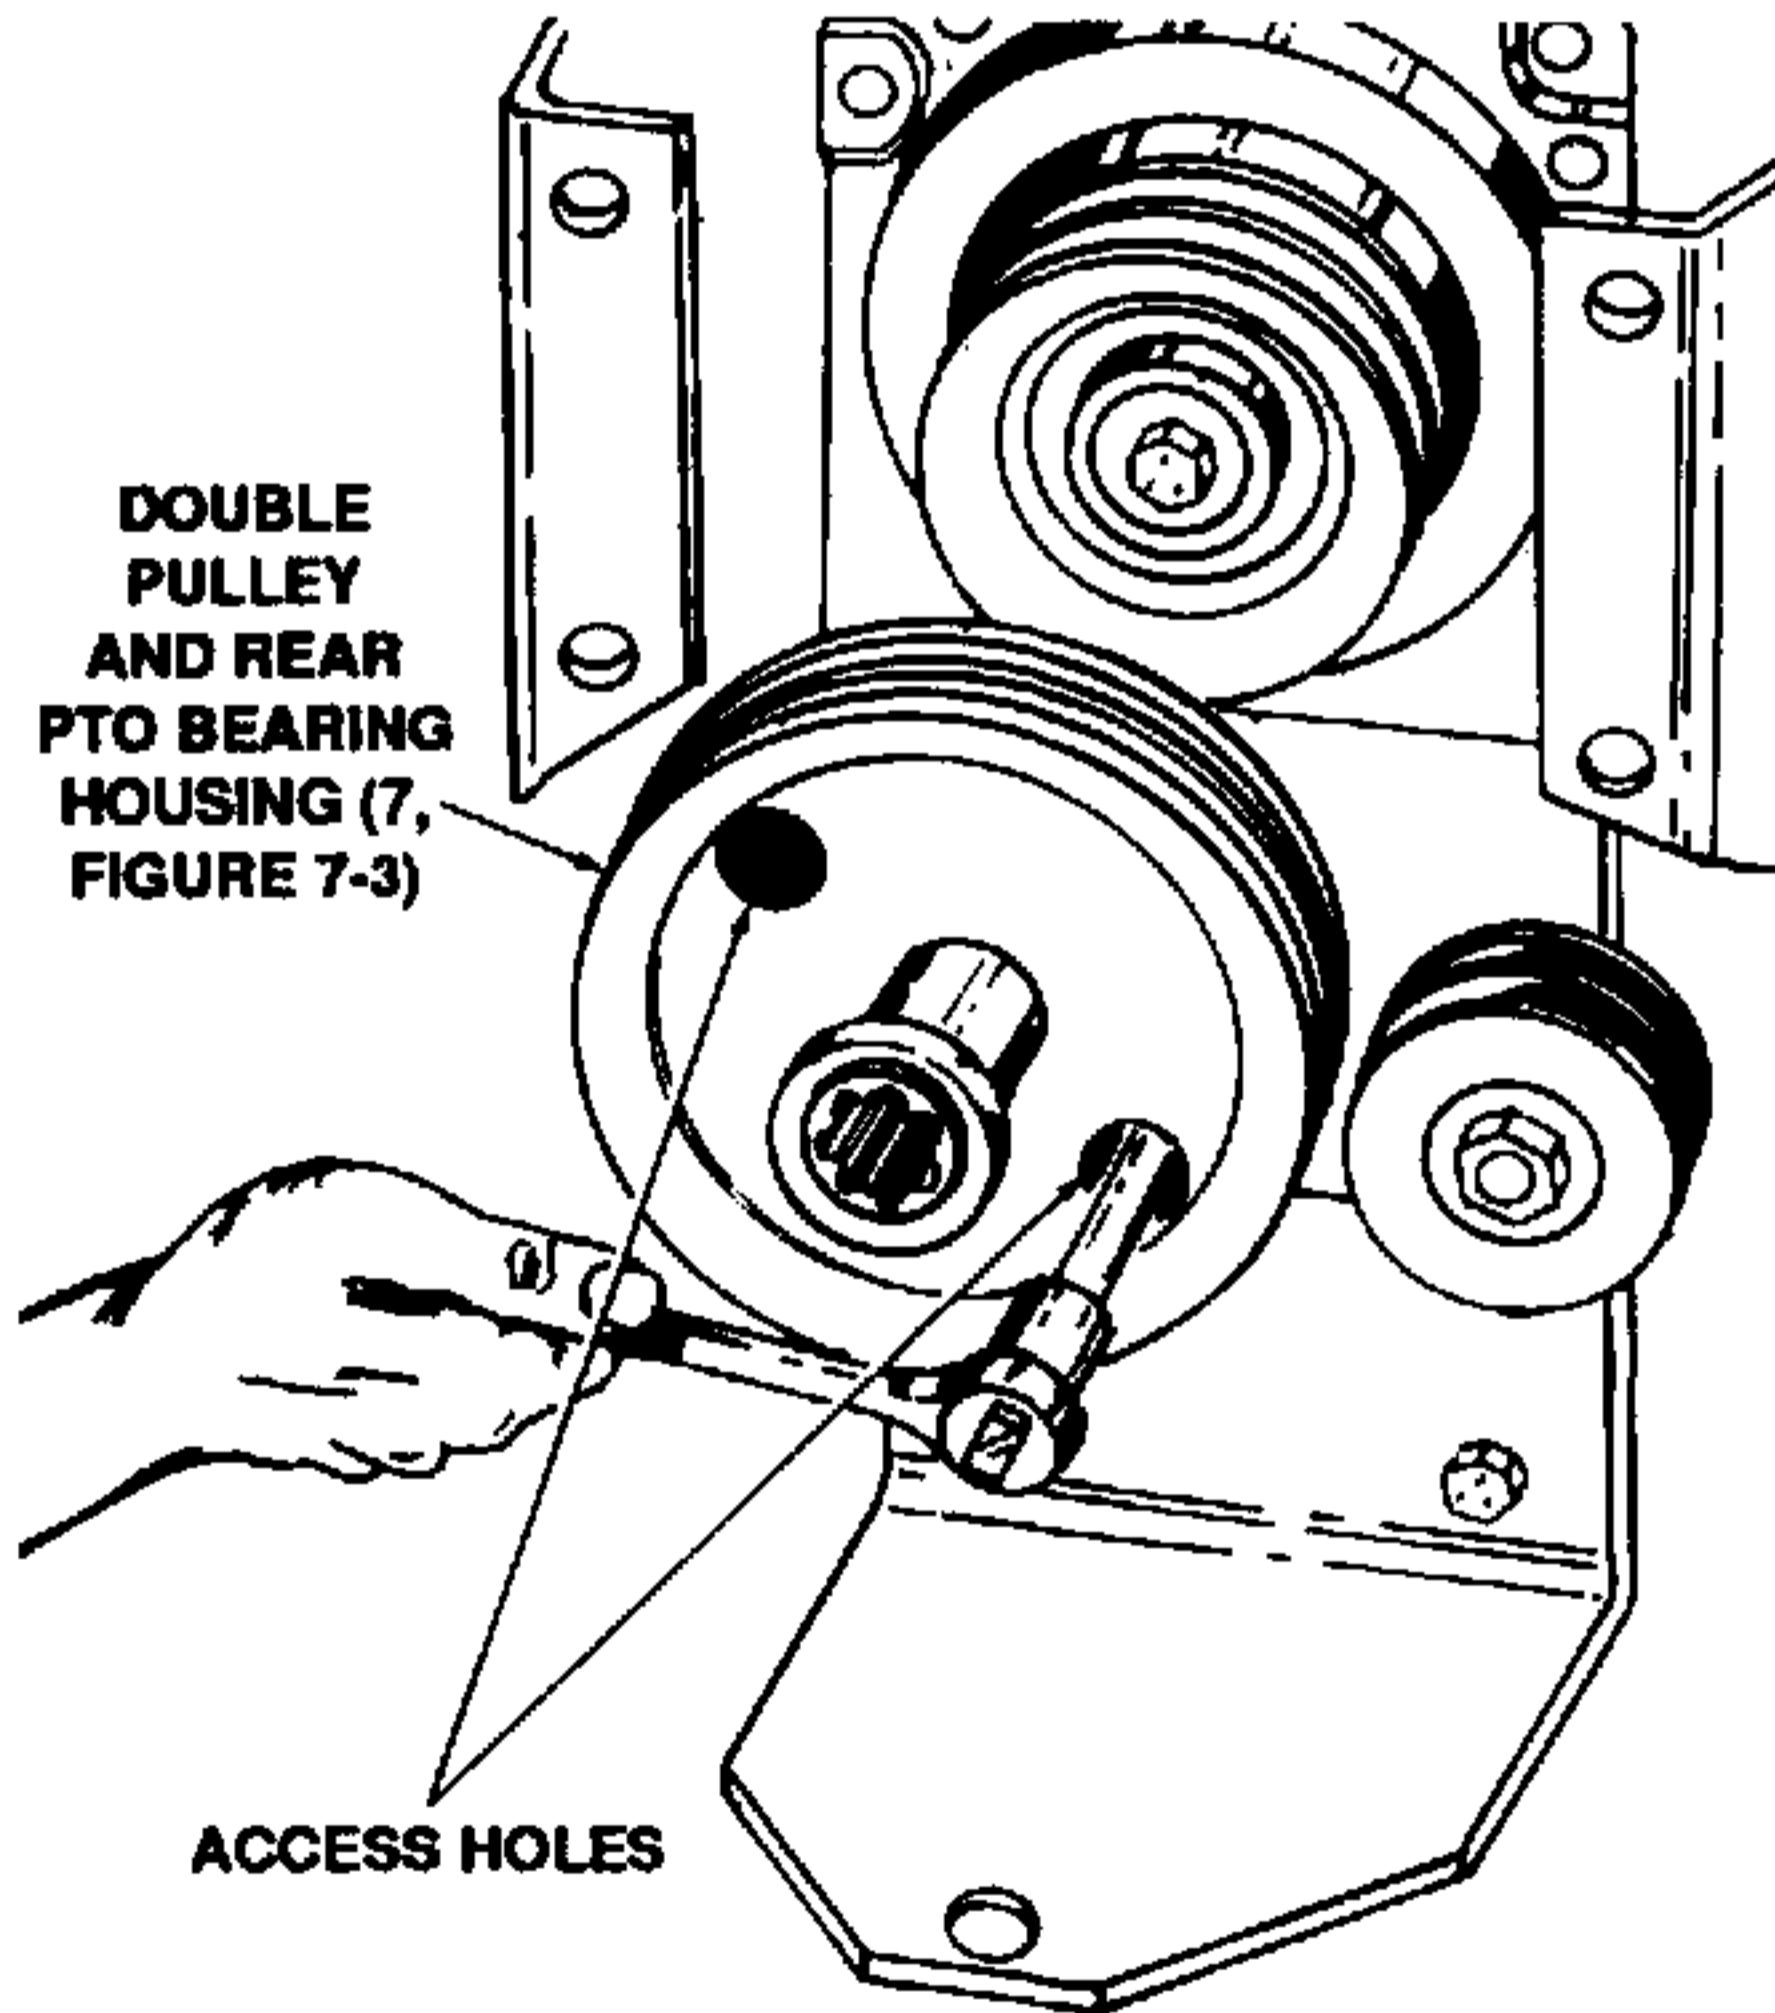

Figure 7-23. Tightening Lock Nuts In Double Pulley.
- b. Place socket head wrench through access holes in double pulley and tighten lock nuts. Refer to Figure 7-23.